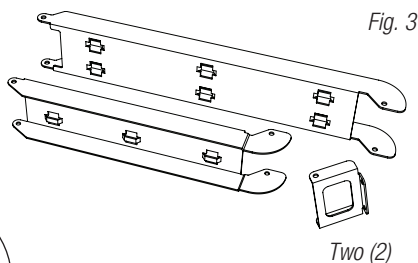

Fig. 3
1. Carefully unpack Z Bracket. Do not discard hardware (included) (*Fig. 3, pg. 4*).